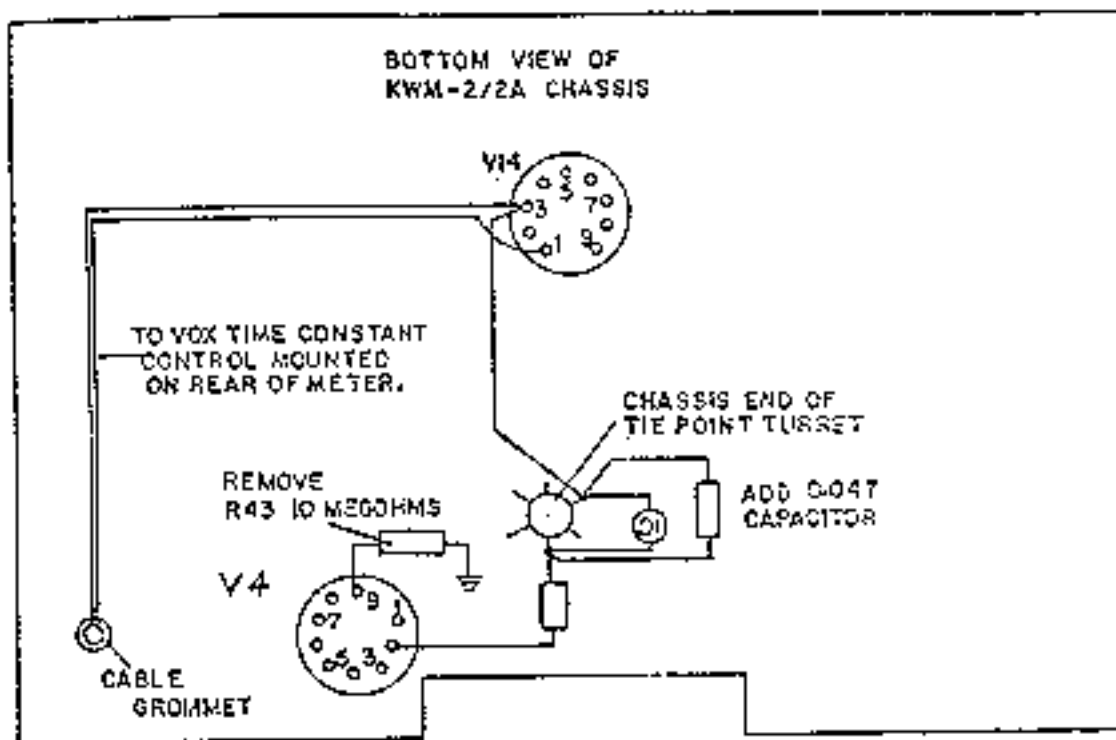

Figure 2. Parts Location - Under Chassis
5. Add 0.047-uf capacitor (931-0295-00) in parallel with 0.01-uf disc capacitor located between pins 1 and 3 of E50. E50 is a mounting turret post located between XV4 and XV14 tube sockets. Sleeve leads of new capacitors with insulation (152-1613-00). See figure 2.